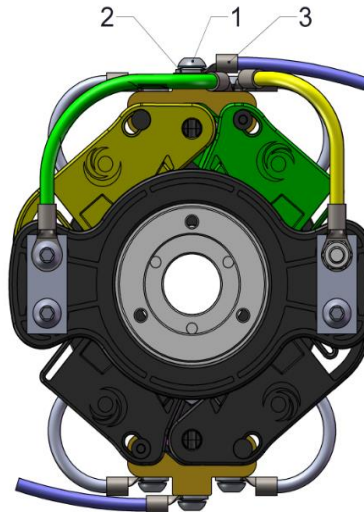

Fig. 12
- Remove the screw (1) and the washer (2) (Fig. 12);
- Position the terminals (3) on the threaded hole;
- Secure the terminals with the screw (1) and washer (2).